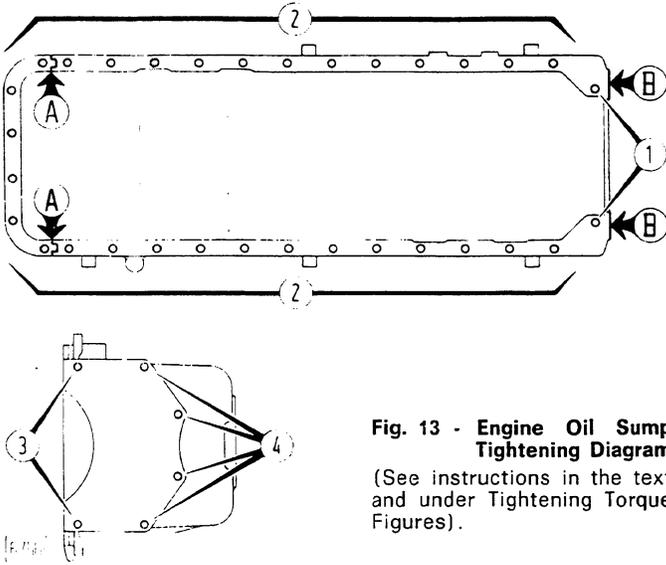

Fig. 13 - Engine Oil Sump Tightening Diagram
- Coat gasket seams (A, Fig. 13) and ends (B) with jointing compound. Also smear the threads of screws (3).
- Place the sump in position and reinstall retaining screws (2) through a few turns only.
- Fully tighten screws (1) and refit screws (3 and 4) to 3/4 of their full depth.
- Slightly slacken screws (1) and fully tighten screws (3 and 4).
- Fully tighten screws (2) in a staggered sequence.
- Check that screws (3 and 4) are adequately tight and tighten screws (1).